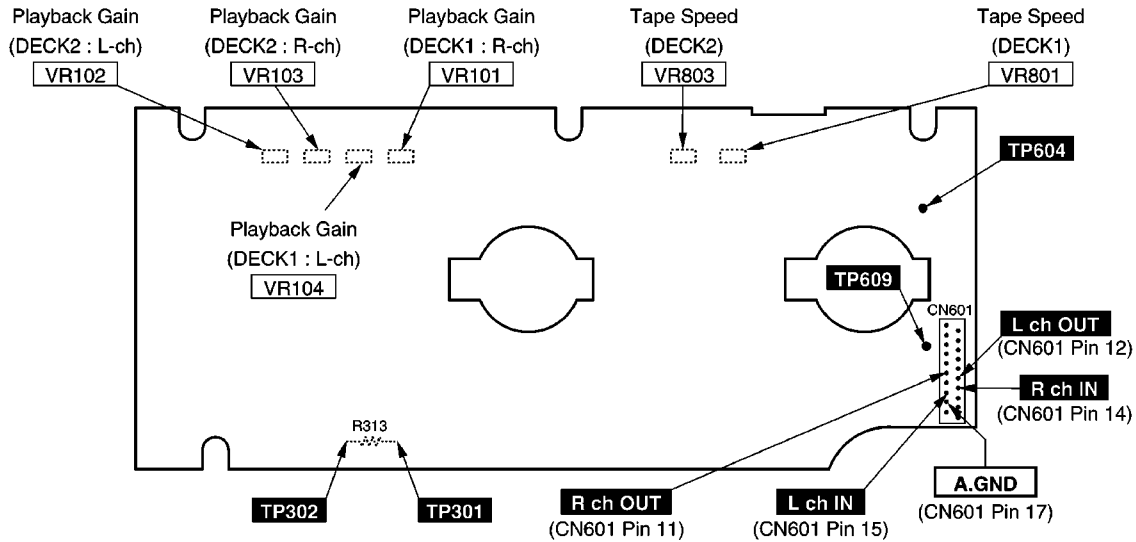

Fig. 13-11.
3. Adjust **VR801** (Deck 1) and **VR803** (Deck 2) for output value shown below. (For adjustment point, refer to Fig. 13-11.)
3. Adjust Deck 2: **VR102** (L ch) [**VR103** (R ch)] and Deck 1: **VR104** (L ch) [**VR101** (R ch)] so that the output is within the standard value shown below. (For adjustment point, refer to Fig. 13-11.)
3. Check if the output at this time between the erase current confirmation point TP301 and TP302 (the output on both edged of R313) is within the standard value shown below. (For the erase current confirmation point, refer to Fig. 13-11.)